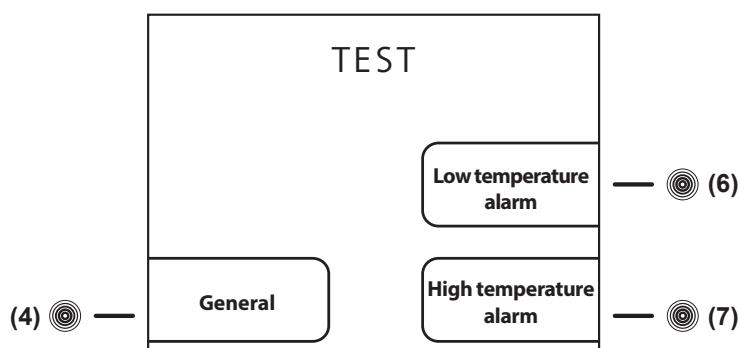

Fig.14
- from the main menu screen-shot, press the **touch-button (6)** to access to the TEST menu (Fig.14)
- press the **touch-button (4)** in the TEST screen-shot (*Fig.14*) to activate the GENERAL test. Through this procedure will be checked automatically the correct functioning of the battery and battery relay. The buzzer sounds during all the test (6 seconds). If the test has a positive result, the display shows TEST OK, otherwise the display switch off for a few seconds and automatically re-starts. Once completed the test, automatically, the display return back to the main screen-shot.
- press the **touch-button (6)** in the TEST screen-shot (*Fig.14*) to activate the LOW ALARM TEMPERATURE TEST. The display shows automatically the temperature that decrease and once reached the limit set for the low alarm temperature, It activates the buzzer and on the display appears the indication of Low temperature alarm. Press the **ESC touch-button (11)**, the test terminates and the display return back to the main screen-shot.
- press the **touch-button (7)** in the TEST screen-shot (*Fig.14*) to activate the HIGH ALARM TEMPERATURE TEST. The display shows automatically the temperature that increase and once reached the limit set for the high alarm temperature, It activates the buzzer and on the display appears the indication of Low temperature alarm. Press the **ESC touch-button (11)**, the test terminates and the display return back to the main screen-shot.